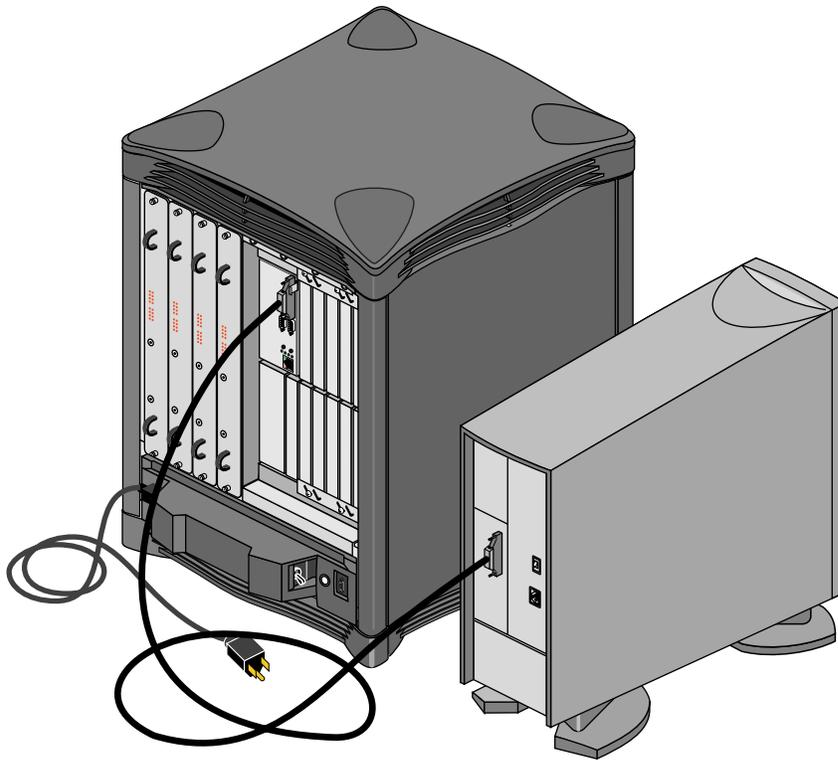

**Figure 5-3** Install or Replace the System Controller or CD-ROM Drive
3. Use a #1 Phillips-head screwdriver to loosen and remove the four screws that hold the assembly in place on the chassis, as shown in Figure 5-3.